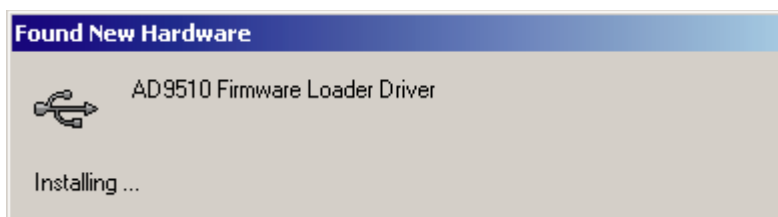

Figure 3.
4. Next, another pop-up window (Figure 3) should appear and disappear.